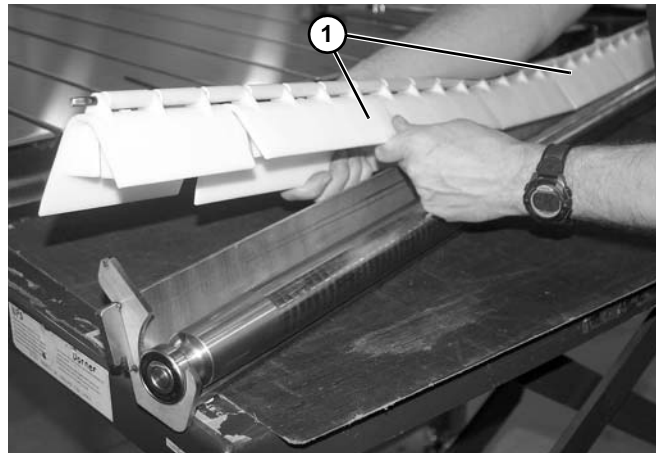

Figure 144
6. Slide off remaining wear plates (Figure 144, item 1) off of mounting bracket.